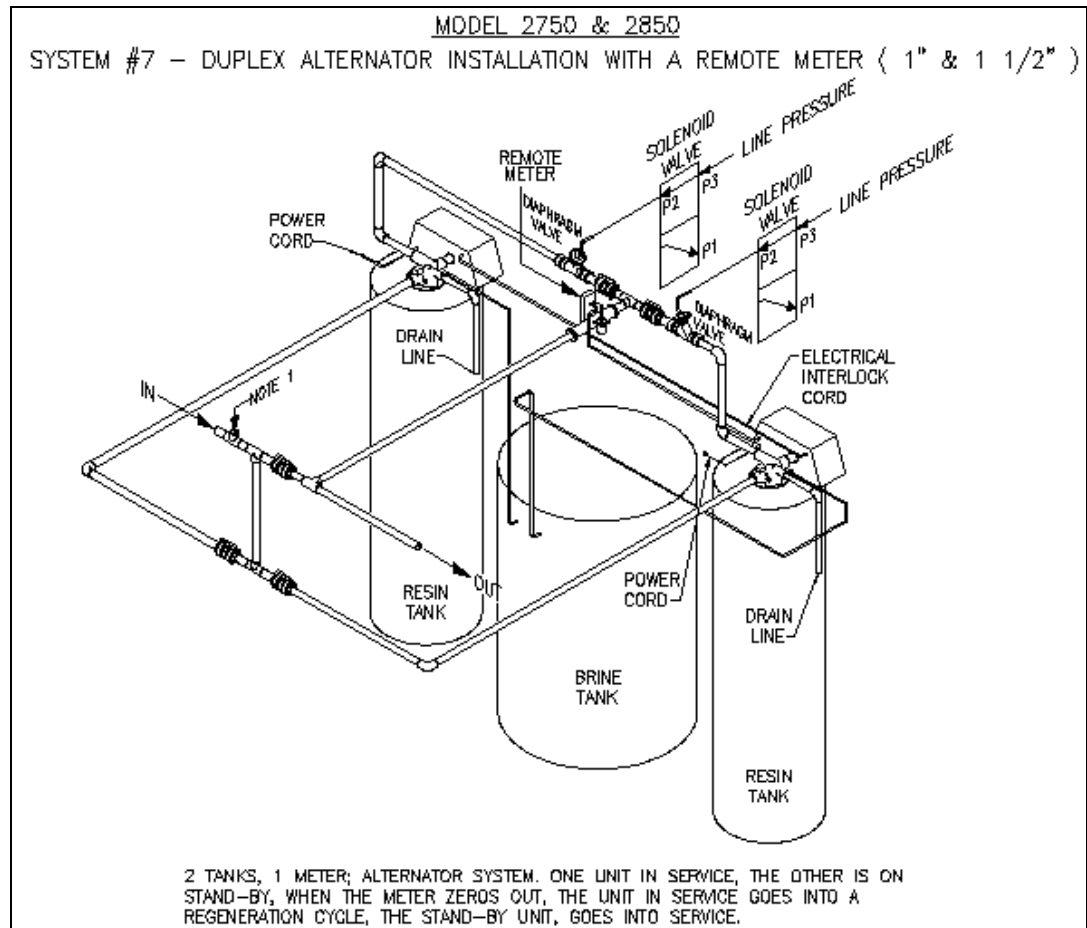

Figure 2-8: Duplex Alternating Installation with Remote Meter
- I. Install the piping according to the System 7 Duplex Alternating Installation with Remote Meter, Figure 2-8. The brine draw lines from both control valves must be run to the common brine tank. Components supplied by the manufacturer are the 3-way solenoid valves and the Normally Open Diaphragm valves. Follow all "Installation Instructions" in the Model 2750 or 2850 Control Valve Service Manual.